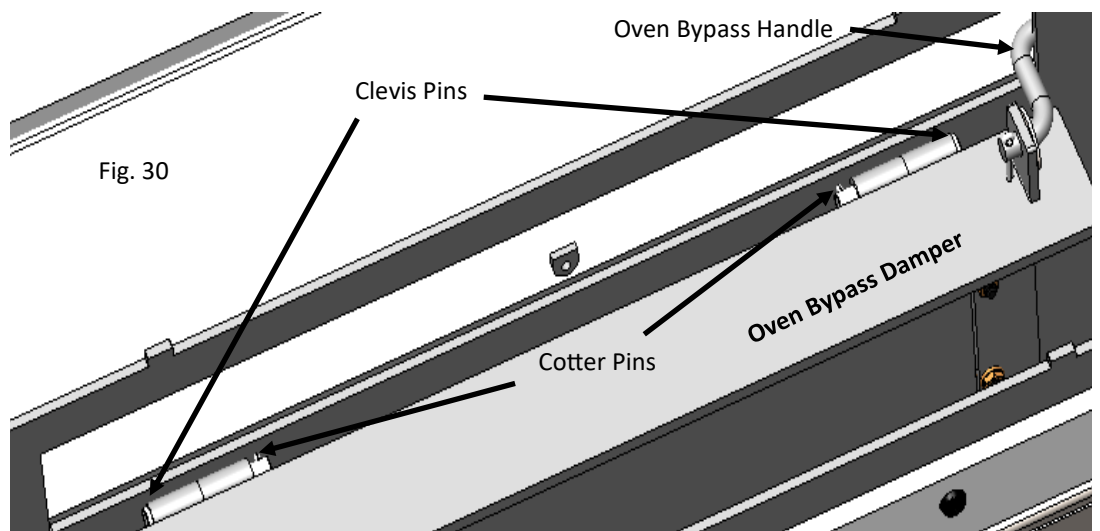

Fig. 30
2. Remove 2 cotter pins from Oven Bypass Damper, remove 2 - 5/16" x 2-3/8" Clevis Pins and remove the damper. See Fig. 30.